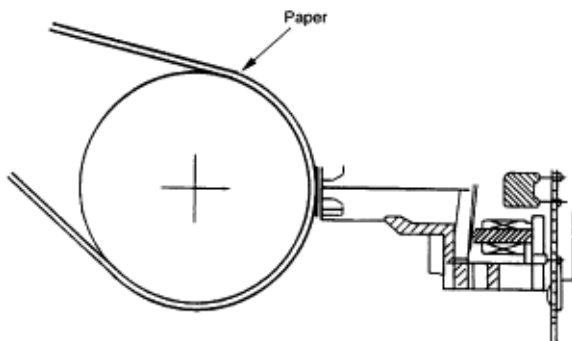

Figure 2-3
(2) Printhead Operation (See Figure 2-3 below).